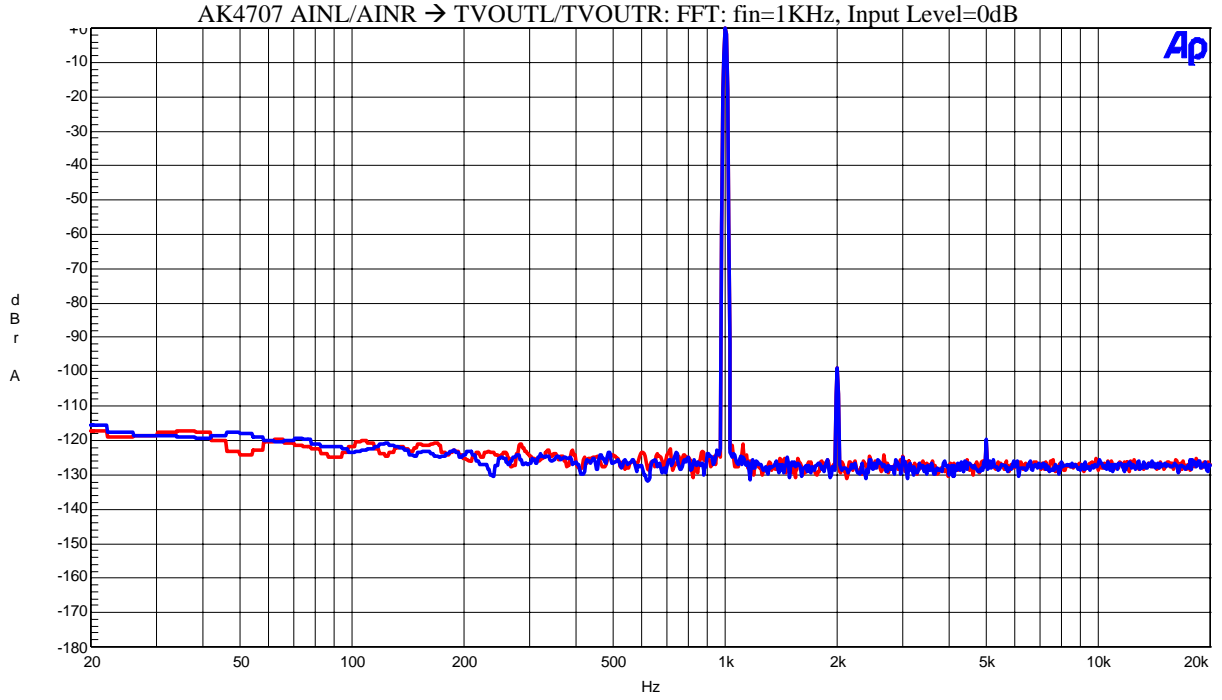

Figure1-1. FFT (fin=1kHz, Input Level=0dBFS)
- Figure 1-1. FFT (1kHz, 0dBFS input) at 2Vrms output